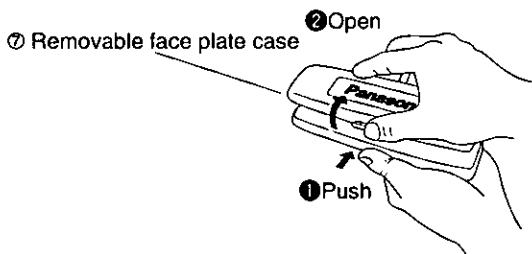

Fig. 3
- c) Remove the unit pulling with both hands.(Fig.3)
④ As shown in Fig.3, gently push the lower side of the case and open its cover. Keep the removable face plate in the case. Then, you can bring the plate safety.